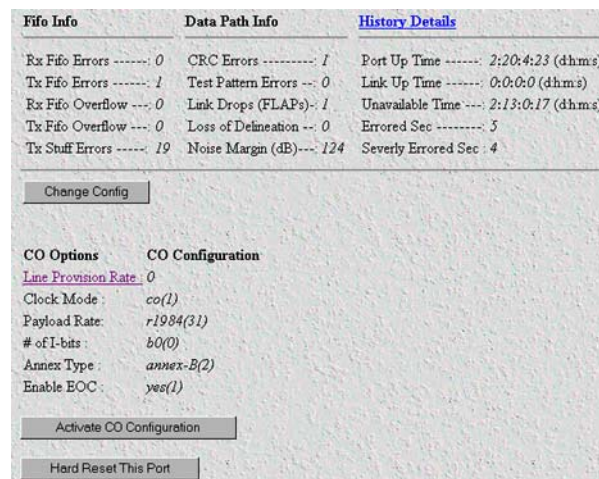

Figure 35. G.SHDSL Port # Details page
6. Click the “Submit” button to record your changes in volatile DRAM. You will automatically return to the G.SHDSL Port # Details page (shown below), displaying the values you selected (see figure 35).